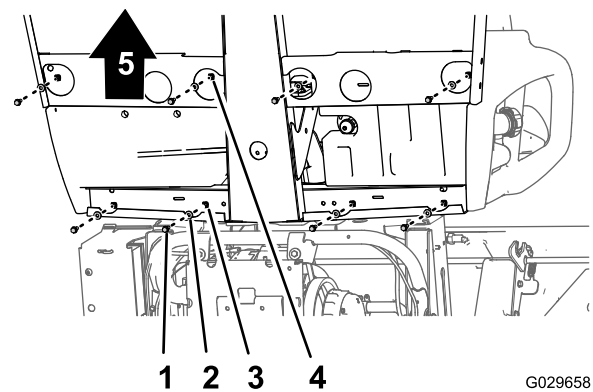
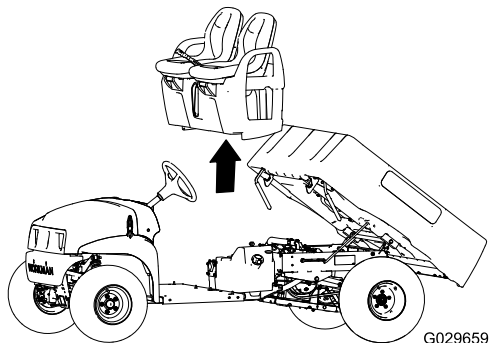

Figure 44
Figure 45
1. At the bottom of the machine, remove the 8 flange-head bolts and 8 washers that secure the seat base to the floor plate and rear-cab channel (Figure 44).
- Carefully lift the seats, seat base, and parking brake cables from the machine (Figure 44).
1. Lift the seats and seat base onto the machine and align brake cables to the chassis (Figure 44 and Figure 45).
2. Align the holes in the seat base with the holes in the floor plate and rear-cab channel (Figure 44 and Figure 45).